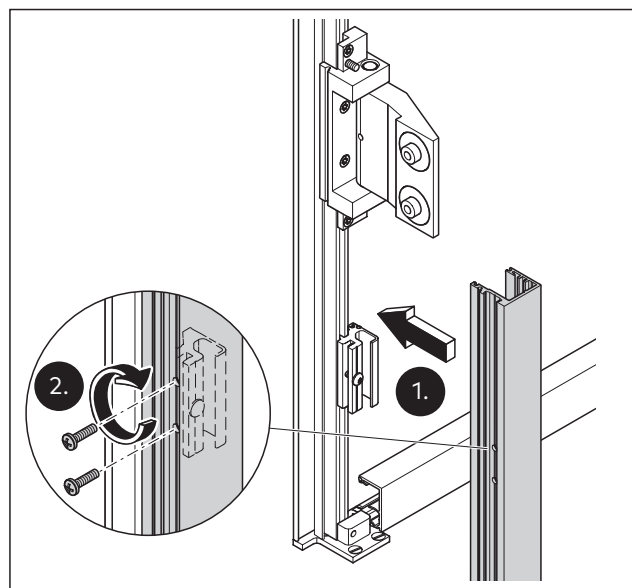

Fig. 47 Fasten the lower cover profile on the hinge side.
1. Place the vertical cover profiles for the door frame on the hinge side from bottom to top (Fig. 47).